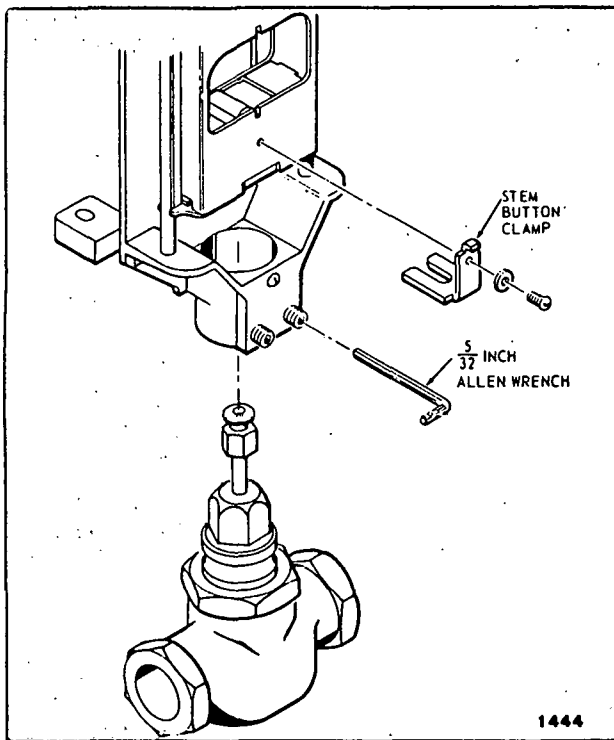

FIG. 4—ASSEMBLY OF THE LINKAGE TO THE VALVE.
2. Loosen, if necessary, the 2 setscrews and slide the linkage over the valve bonnet (Fig. 4).